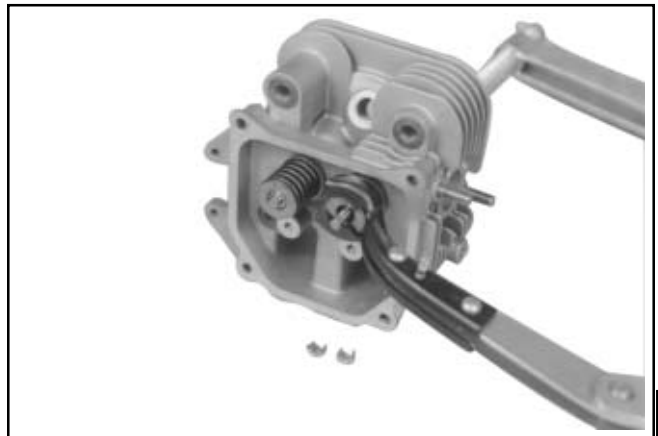

Figure 9-40. Removing Valves with Valve Spring Compressor.
2. Compress the valve springs using a valve spring compressor. See Figure 9-40.